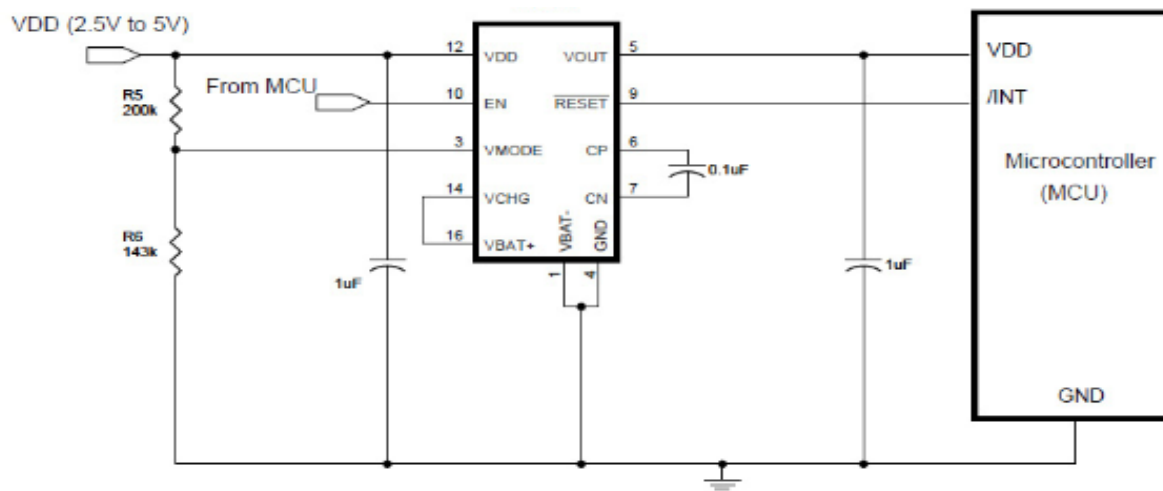
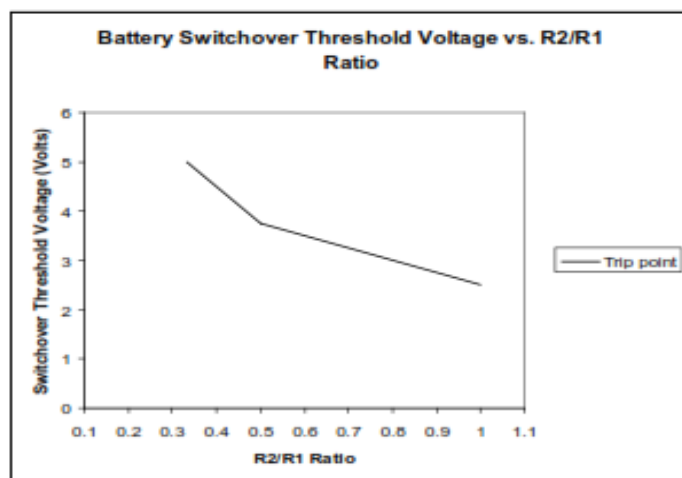

Figure 7: CCBC3105 Typical Circuit for Mode 2 Operation
Figure 8. Mode 2 Resistor Selection Graph
(2) Users- selectable trip voltage can be set by placing a resistor divider from the V_{MODE} pin to GND. Refer to Figure 8.
Figure 7 shows the circuitry for user-selectable switchover threshold to a value between 2.5 and 5.0 volts. Use Figure 8 to determine the value of R1. To determine the amount of hysteresis from the EnerChip™ switchover threshold, use Figure 9.
EnerChip™ charging and backup power switchover threshold for 2.5 to 5.5 volt operation is selected by changing the value of R2 (see Figure 7). To determine the backup switchover point, set the value of R1 to 200kΩ and choose the value of R2 according to Figure 8. For example, to set a 3.0V trip point: If $R1 = 200\text{ k}\Omega$ then $R2 = R1 \times 0.72 = 144\text{ k}\Omega$. Figure 7 shows a Mode 2 circuit with standard value resistors of 200kΩ and 143kΩ.